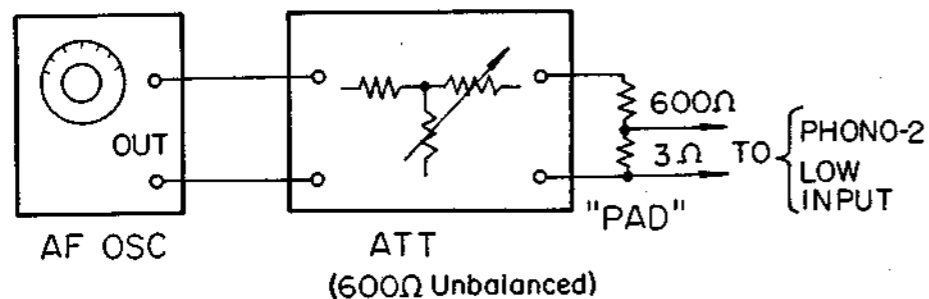

Fig. 3-1. PHONO-2 (LOW) Sensitivity Measurement Test Set-up
Note: a. When measuring the sensitivity of the PHONO-2 LOW input, insert a pad with a loss of 43 dB between the attenuator and input terminal. See Fig. 3-1.
- (6) PHONO-1 Input
- (7) PHONO-2 Input (NORMAL)
- (8) PHONO-2 Input (LOW)
- Step 3: Adjust the attenuator to obtain a 1 volt reading on the VTVM. The input sensitivity is the attenuator reading plus the pad loss. See Fig. 3-1.
- (9) TAPE HEAD Input
- (10) MIC Input